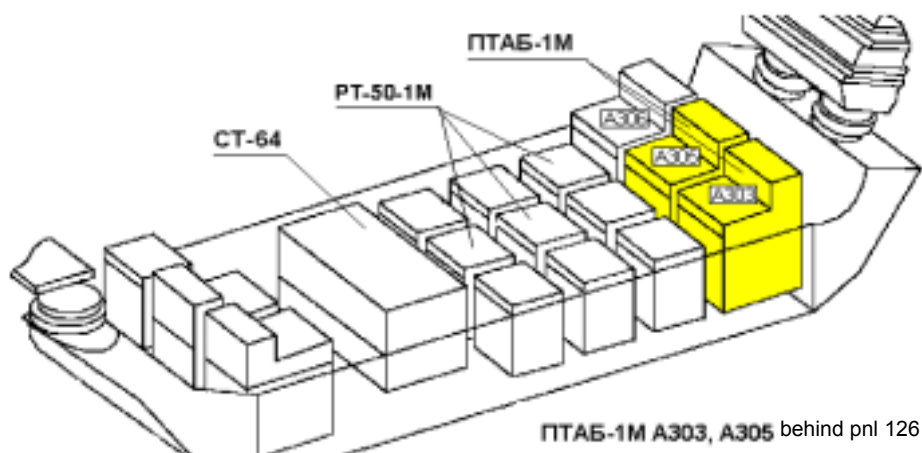

Figure 2.2.-1. ПТАБ-1M Units Location Diagram
1. Open panel 126 (see Figure 2.2.-1.)